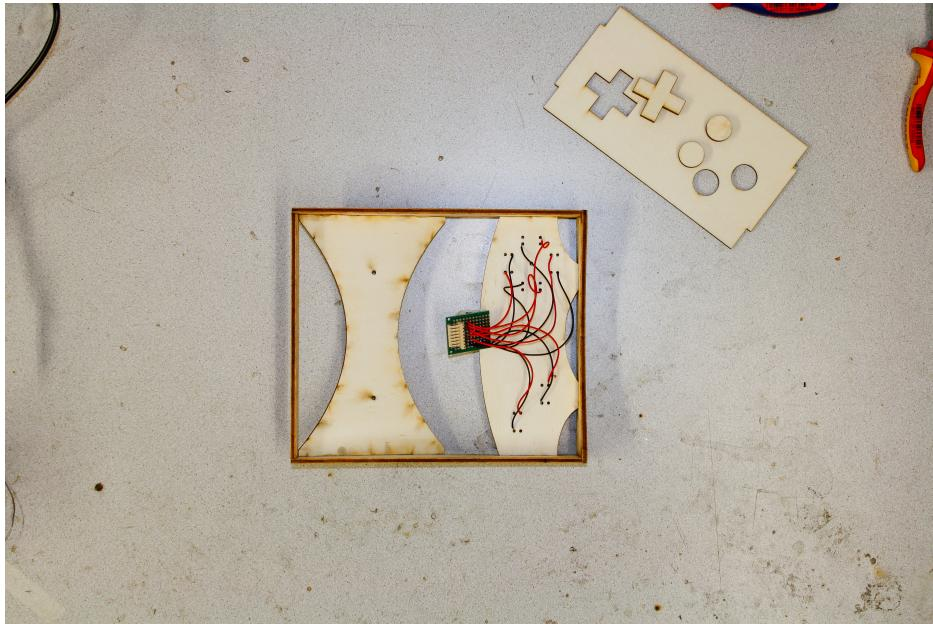

Figure 3.10: The footer all connected
Step 5 Now connect all the wires to the perfboard following the schematic. Your board should now look as in figure 3.10. You could take a look in the 3D model to check your connections. Now your buttons should be ready to use. However, it is wise to check your soldering for short circuits before connecting it to the Raspberry Pi. Read through the troubleshooting in Chapter 5 for more information.